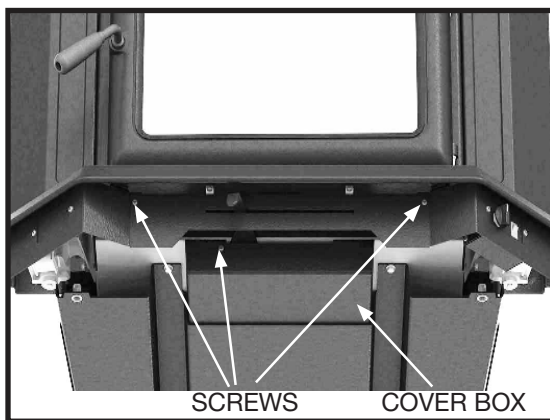

Figure 9: Room air cover.
2. Room air supply: Remove the two screws securing the center cover under the ashlip. Remove the screw in the cover box front and slide the cover box out and discard. Replace the center cover and tighten screws (Figure 9). Combustion Air will be drawn from the room through the front of the unit.